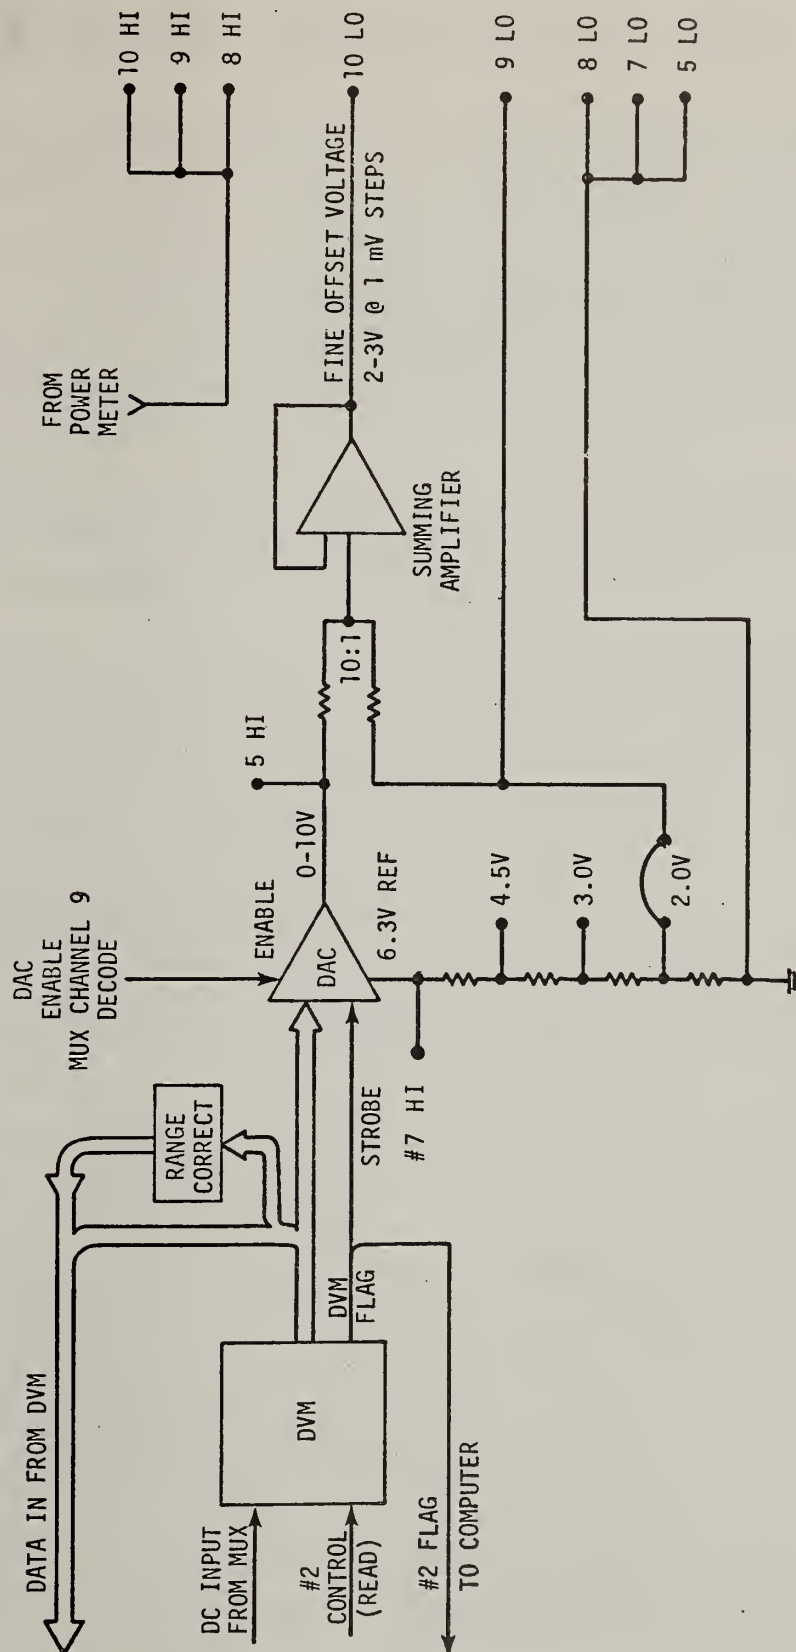

Figure 19. Data Flow-DVM.
6.4.1 Digital Circuits (See Also Figure 19)